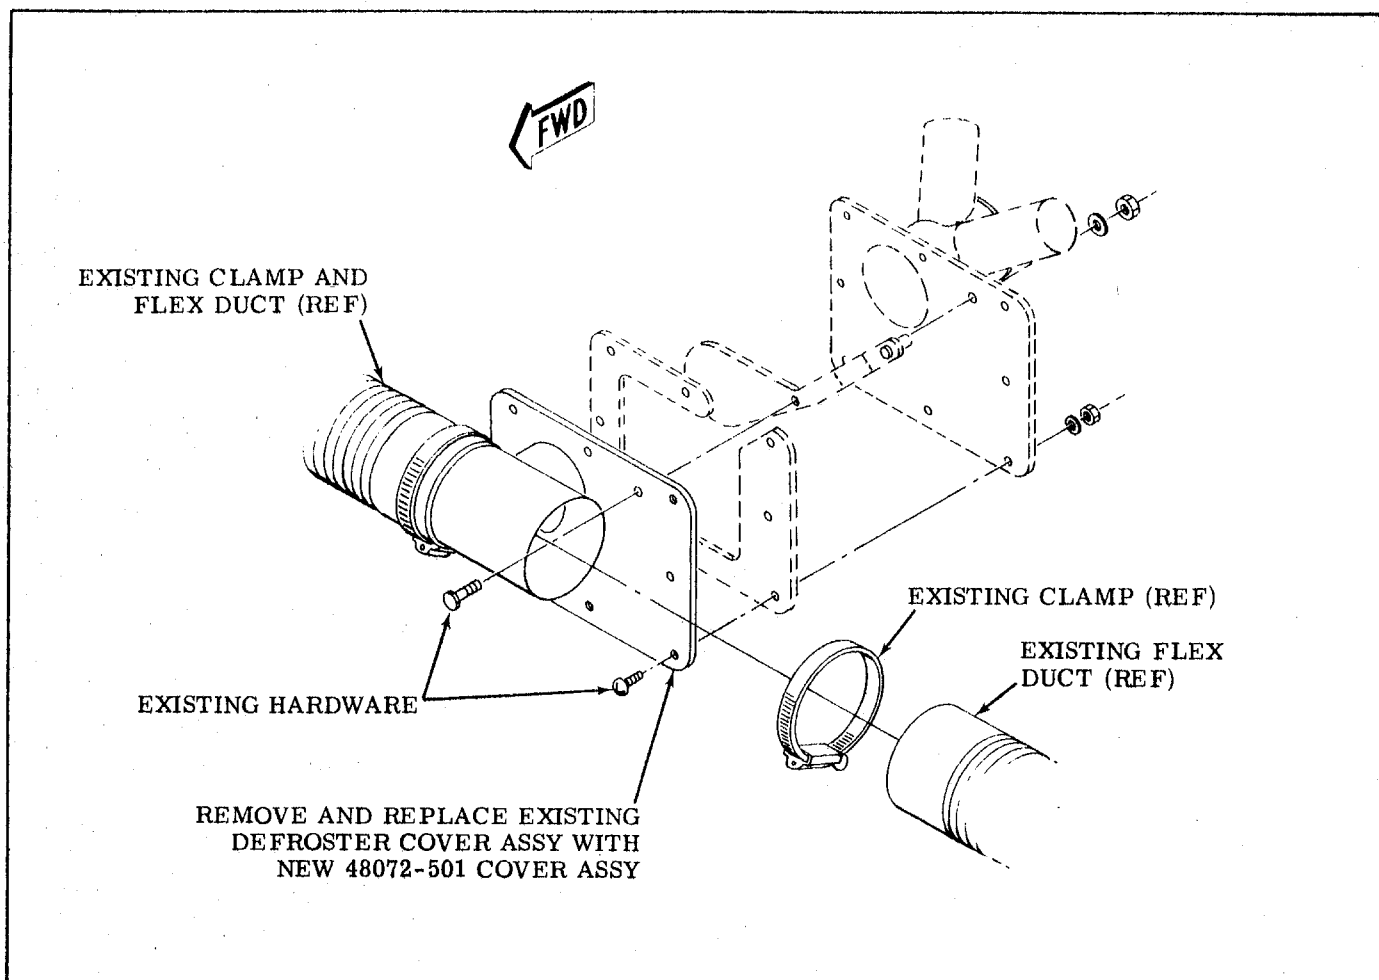

Figure 1.
3. Remove and discard existing defroster valve cover assembly (see Figure 1.).
4. Install 48072-501 defroster valve cover assembly using existing hardware and seal around outer perimeter of cover assembly with Coast Pro-Seal 700, MIL-S-38249, Type I (see Figure 1.).